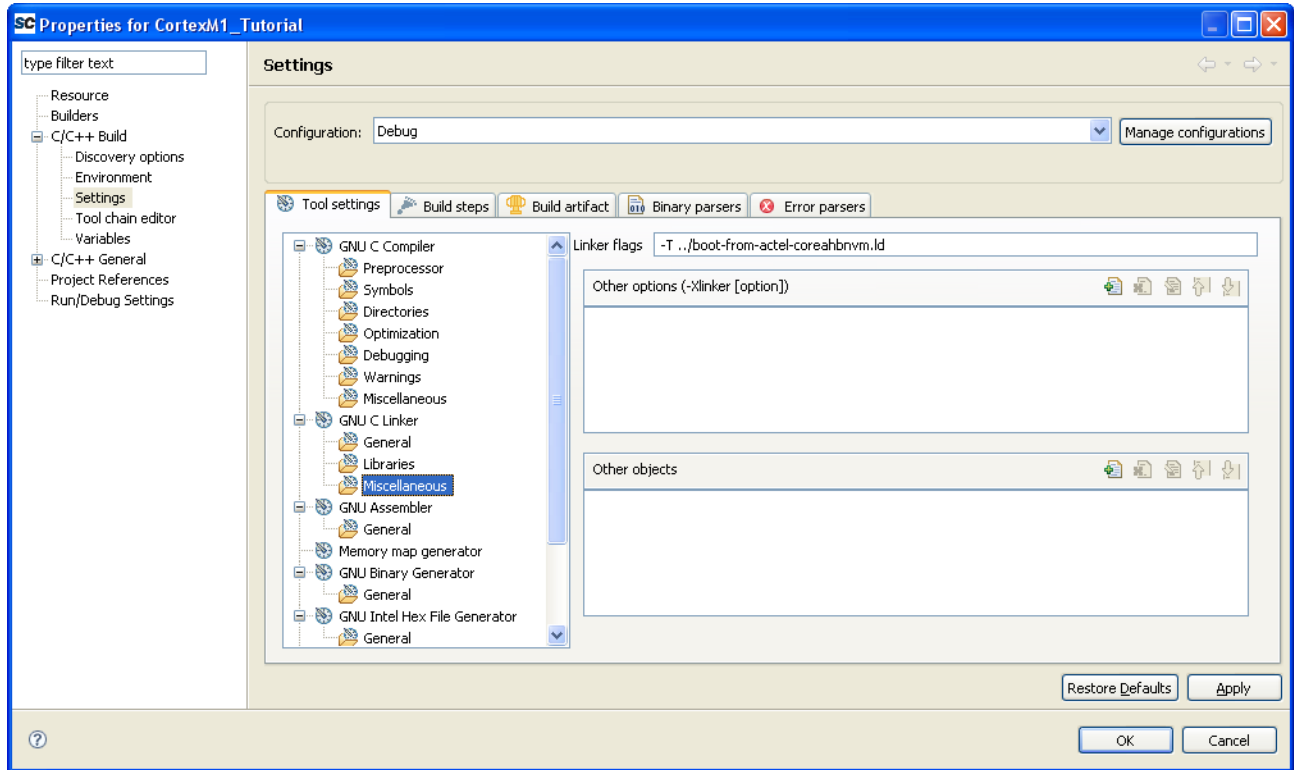

Figure 4-4 · Specifying Linker Script Location
3. Highlight **GNU C Linker > Miscellaneous** and enter **-T <path to linker script>** in the Linker flags text box, as shown in Figure 4-4.